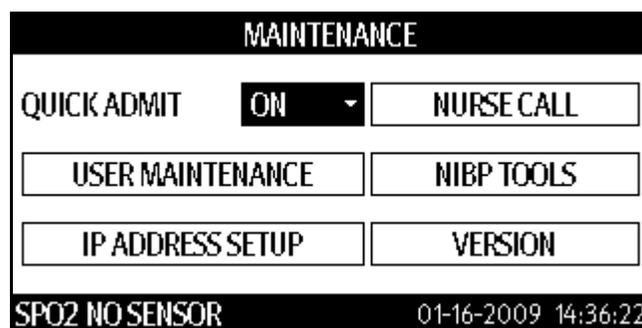

FIGURE 6-2 MAINTENANCE dialog
2. If needed, press  (11) to display the Normal Screen.
3. Press  (12) to display the **SYSTEM SETUP** dialog.
4. Press  (16) or  (19) to highlight **MAINTENANCE**.
5. Once **MAINTENANCE** is highlighted, press  (18) to display the **MAINTENANCE** dialog as shown in FIGURE 6-2.